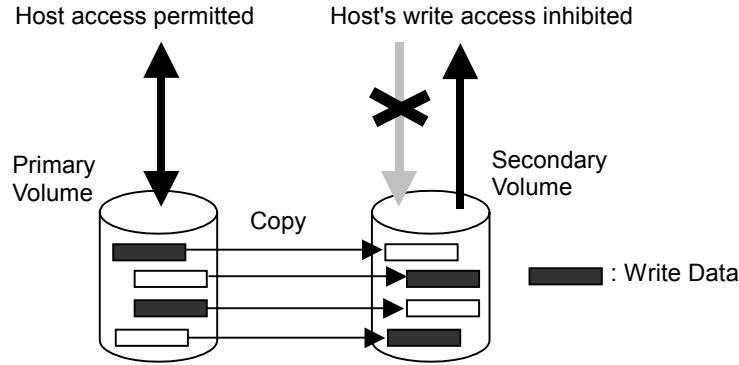

Figure 2.3 Normal Pairresync Operation
- **Normal.** The normal pairresync operation (see Figure 2.3) resynchronizes the S-VOL with the P-VOL. The copy direction for a normal pairresync operation is P-VOL to S-VOL. The pair status during a normal resync operation is COPY. The S-VOL becomes inaccessible to all hosts for write operation, and the P-VOL remains accessible to all hosts for both read and write operations during a normal pairresync. The normal pairresync operation can be executed for pairs with PSUS and PSUE status.